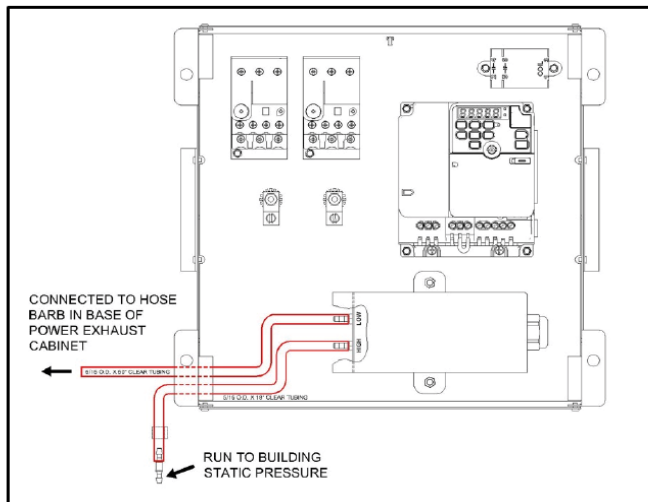

FIGURE 9
5. The installer will be responsible for providing Clear Vinyl Tubing, 5/16" O.D. X 3/16" I.D. (Parker P/N PV53-1 or equal), to connect from the High Pressure hose barb on the side of the control box, to a predetermined location of where the building static pressure will be measured from. Typically, this would be a wall plate mounted in a centrally located pick-up location, away from drafts. Connect per Figure 9.